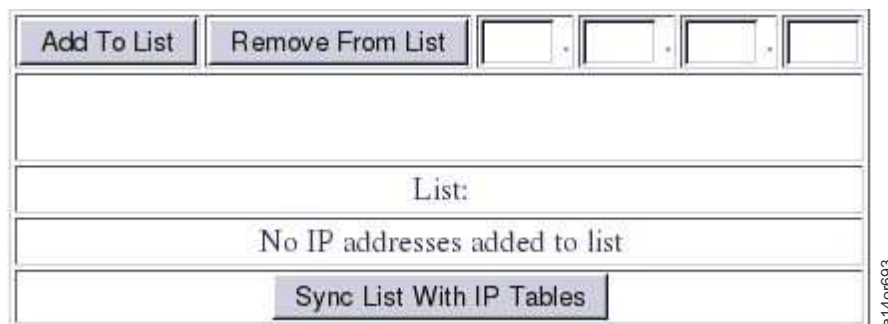

Figure 109. Update IP whitelist settings
4. Select **Console Settings > IP Whitelist**. You see the screen shown in Figure 109.